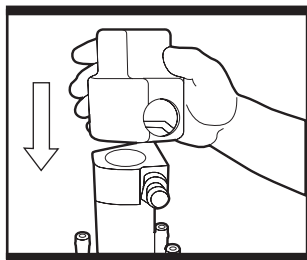

Fig. 1
1. INSTALLATION DU MANCHON DE PROTECTION (Fig. 1)